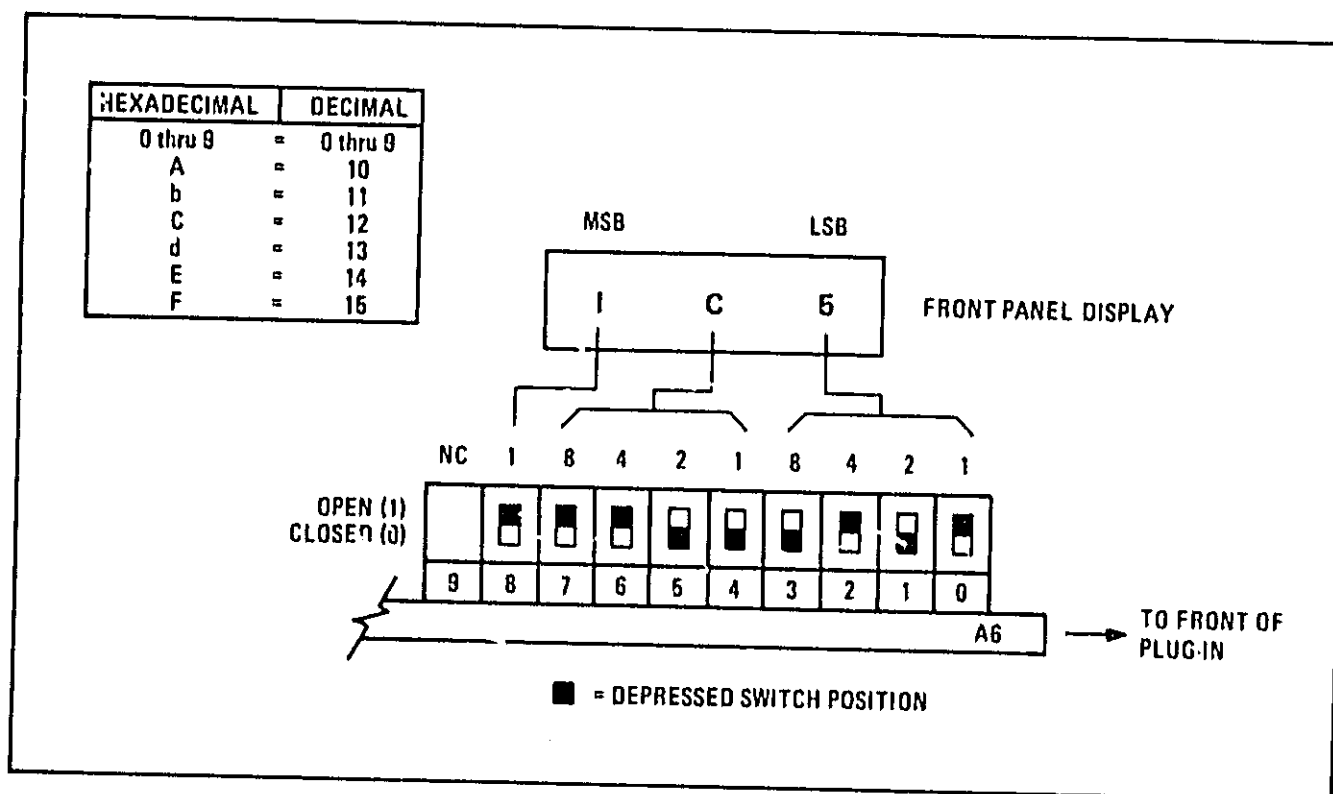

Figure 5-11. A6S1 and A6S2 Frequency Calibration Switch Configuration
14. Set switch **A6S1** (Figure 5-10) for the value displayed in **POWER** window. Refer to the diagram in Figure 5-11.